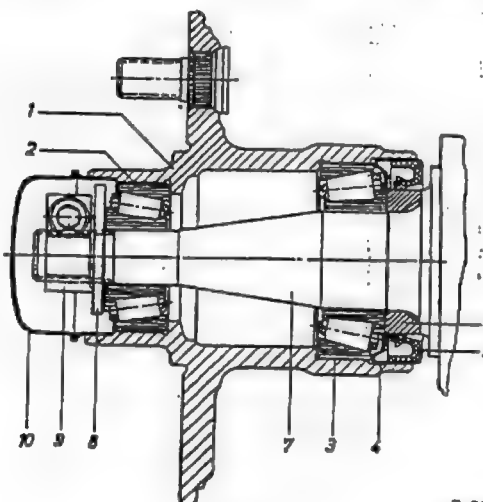

Fig. 33-5/4
the wheel-spindle, which is provided with a reverse thread pattern (Fig. 33-5/4a).
14. Check the washer which is ground on both sides (2) and, if necessary, regrind or replace it (Fig. 33-5/2).